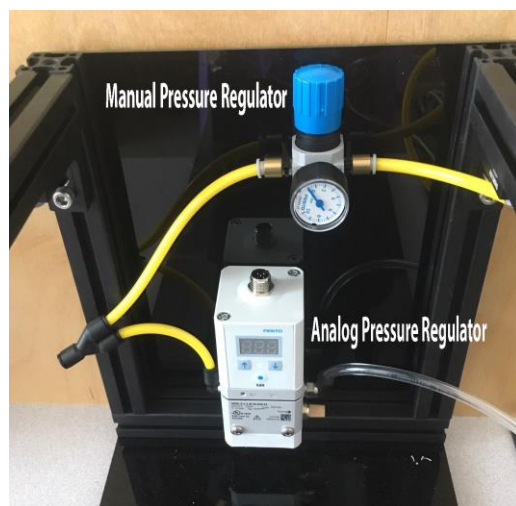

Fig.2.1
- Fix the above two regulators on the back board of the enclosure. (Fig.2.1).